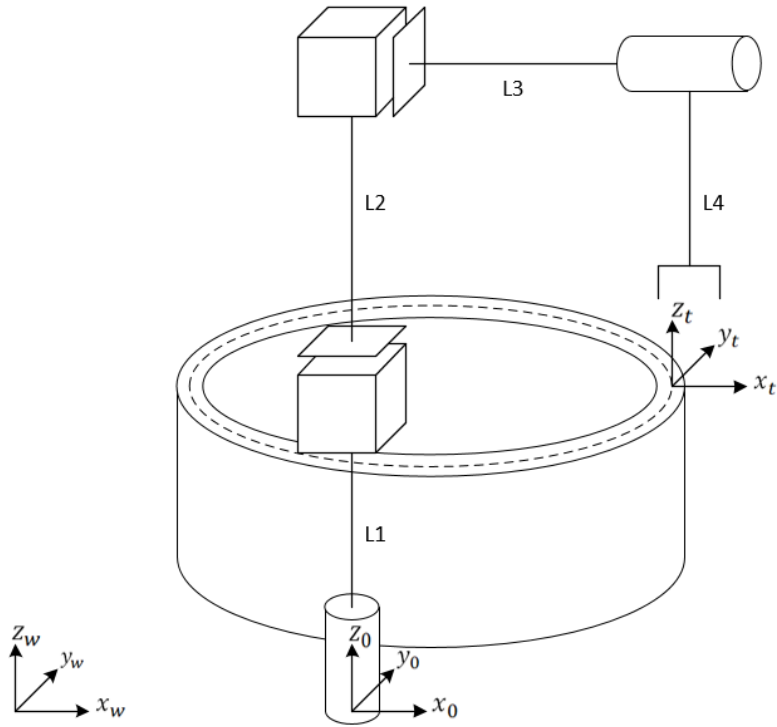

Figure 3: Robot in a welding station
- f) (5 %) We will now use our robot in a real world application. The environment where the robot shall work is shown in figure 3. A welding tool is attached to the end effector, and the robot shall weld two pipes together starting in  $(0,0,0)$  in the target  $t$  coordinate frame. The target coordinate frame is located at  $P_t^W = (x_t, y_t, z_t)$ , where  $W$  is the world coordinate frame. The robots base coordinate frame is located at  $P_b^W = (x_b, y_b, z_b)$ . Write the formulas which will describe the joint configuration that puts the TCP (Tool Center Point, at the tip of the tool/end effector) at  $(0,0,0)$  in the target coordinate frame. Describe your approach thoroughly.